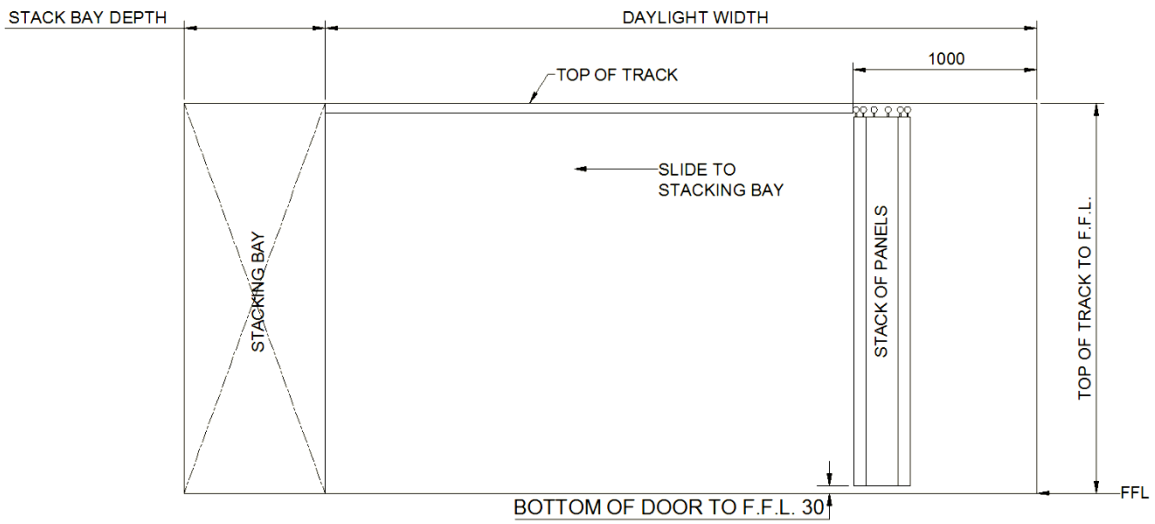

Figure 3
- Leave at least 1.0 meter to slide the panels in/out (Fig.3)